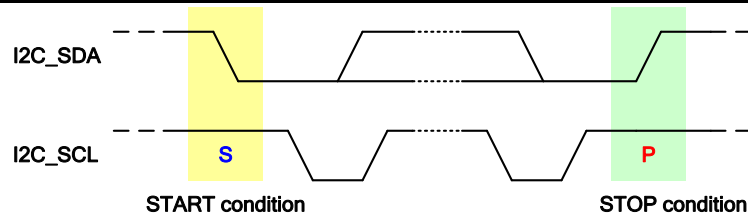

Fig. 2 Definition of START and STOP Condition
Both I2C_SDA and I2C_SCL lines remain HIGH when the bus is not busy. A HIGH-to-LOW transition of I2C_SDA while I2C_SCL is HIGH, is defined as the START condition (S). A LOW-to-HIGH transition of I2C_SDA while I2C_SCL is HIGH, is defined as the STOP condition (P). The START and STOP conditions are illustrated in Fig. 2.